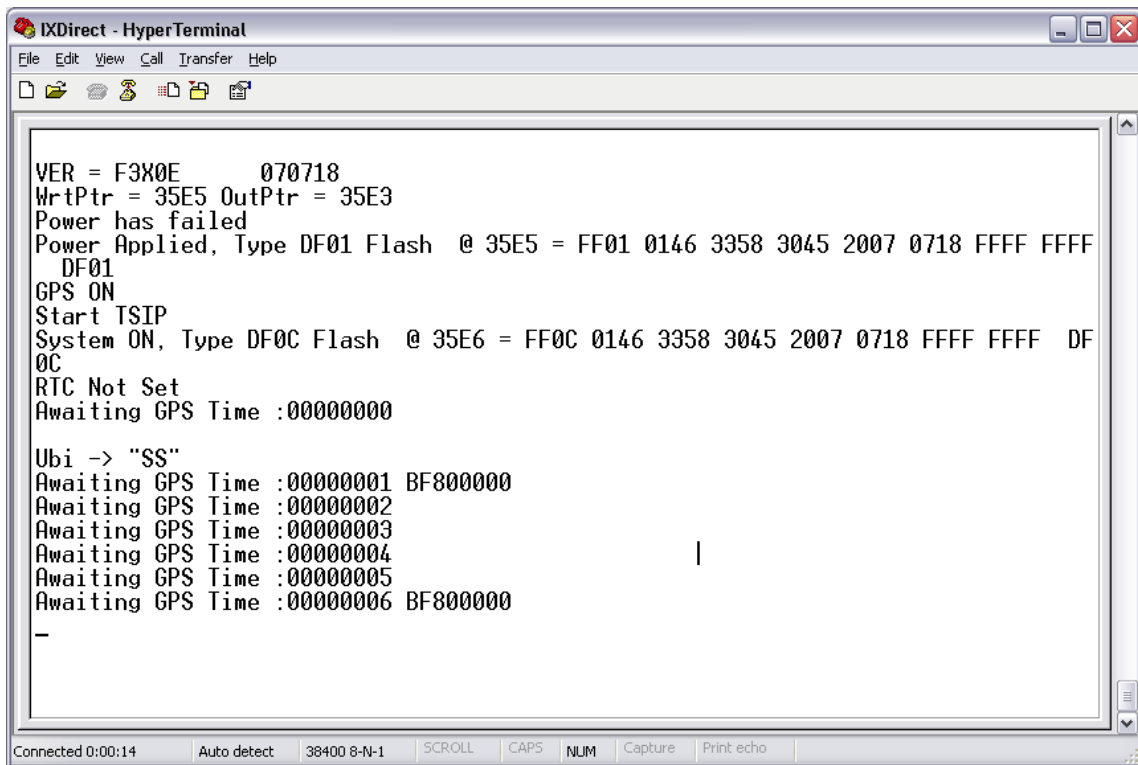

Figure 6: IX Module Output – HyperTerminal
- Refer to Figure 6: IX Module Output – HyperTerminal for an example of the data output.